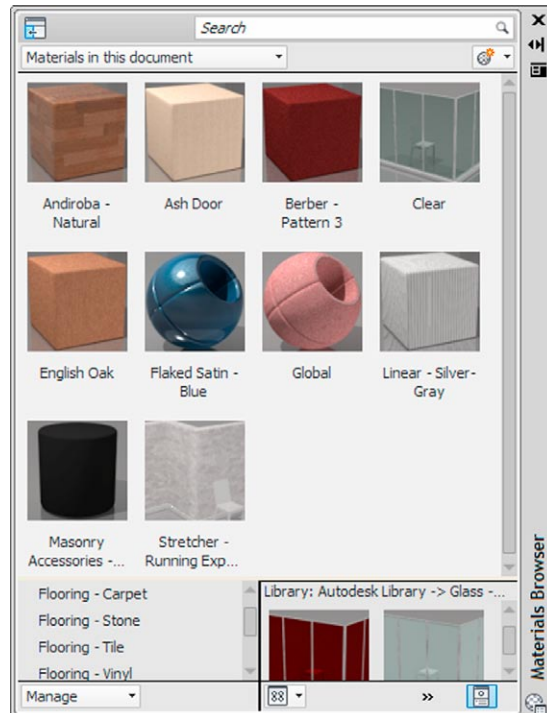

Fig. 15.49 The materials in the scene as seen in the **Materials** palette
1. A fair number of materials were attached to objects as shown in the **Materials Browser** palette associated with the scene (Fig. 15.49).